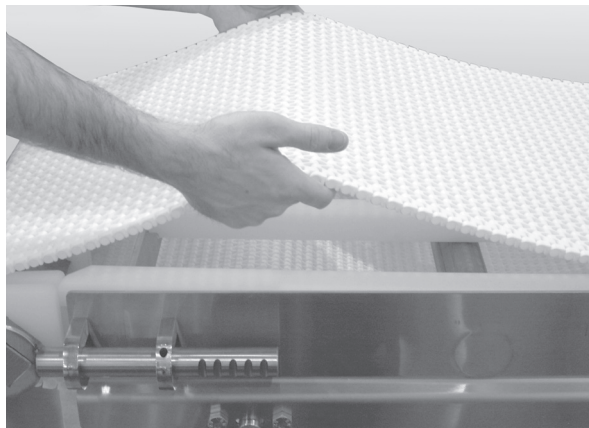

Figure 54
3. Lift up on the belt (**Figure 54**).